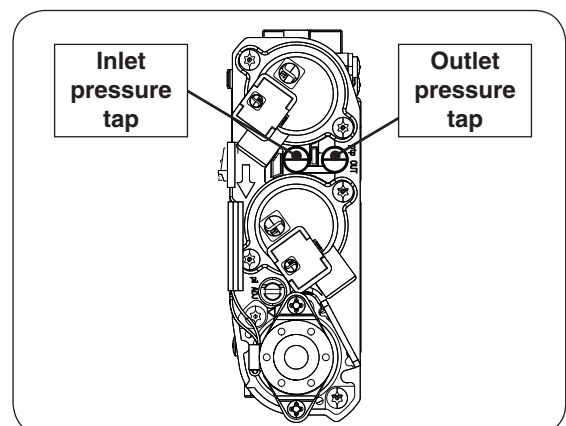

Fig. 28-5 Gas valve detail
7. With burners on, check the gas pressure to ensure all requirements are met. Reference Fig. 28-5 for pressure tap locations, and the **GAS PRESSURE REQUIREMENTS** section for details.